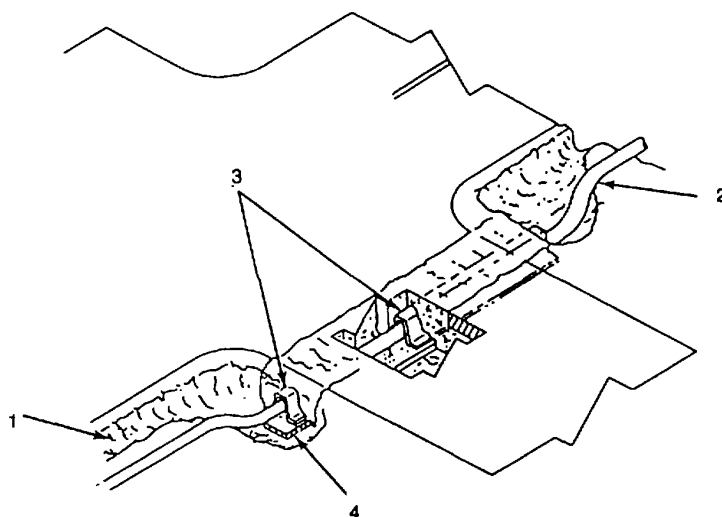

Figure 2-9. Road Crossing Guard
e. Install Road Crossing Guards. Perform the following (Figure 2-9):